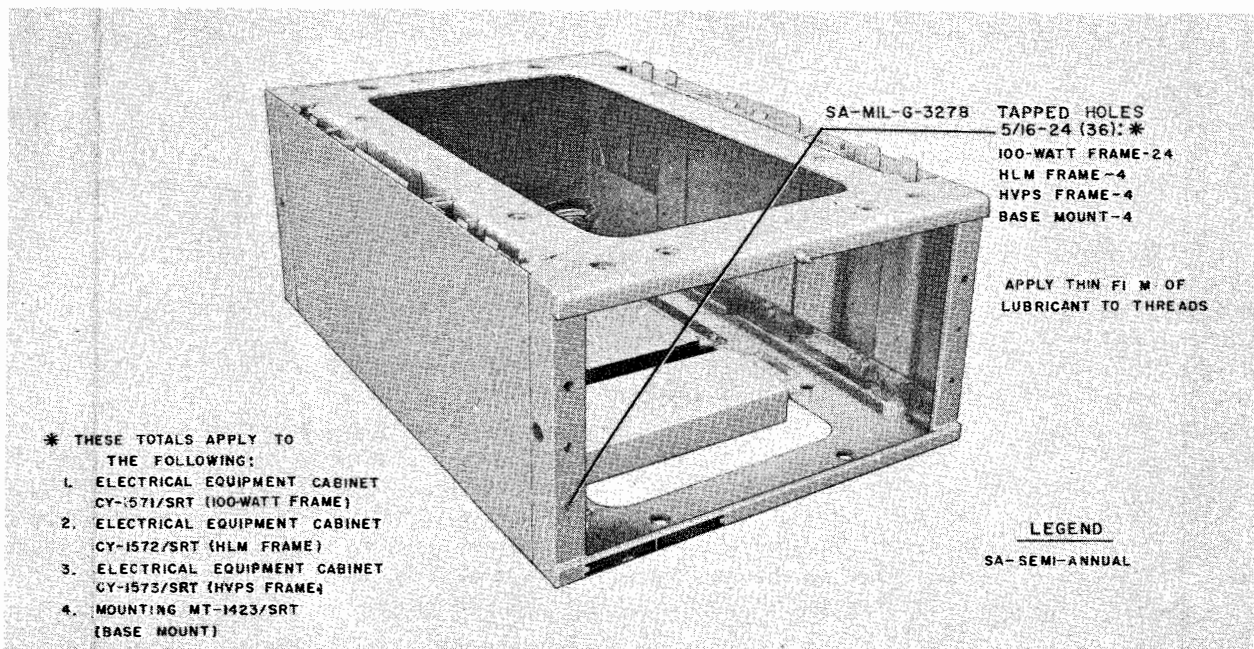

Figure 6-11. Electrical Equipment Cabinet and Base Mount Tapped Holes, Lubrication
(1) FRAMES AND BASE MOUNTS.— Figures 6-11 and 6-12 refer to the lubrication procedures that are used on the equipment frames. The various tapped holes, nuts, latches, and rollers are shown, with references to the lubricants to be used.
(2) RADIO FREQUENCY AMPLIFIER AM-1008/SRT (RFA).